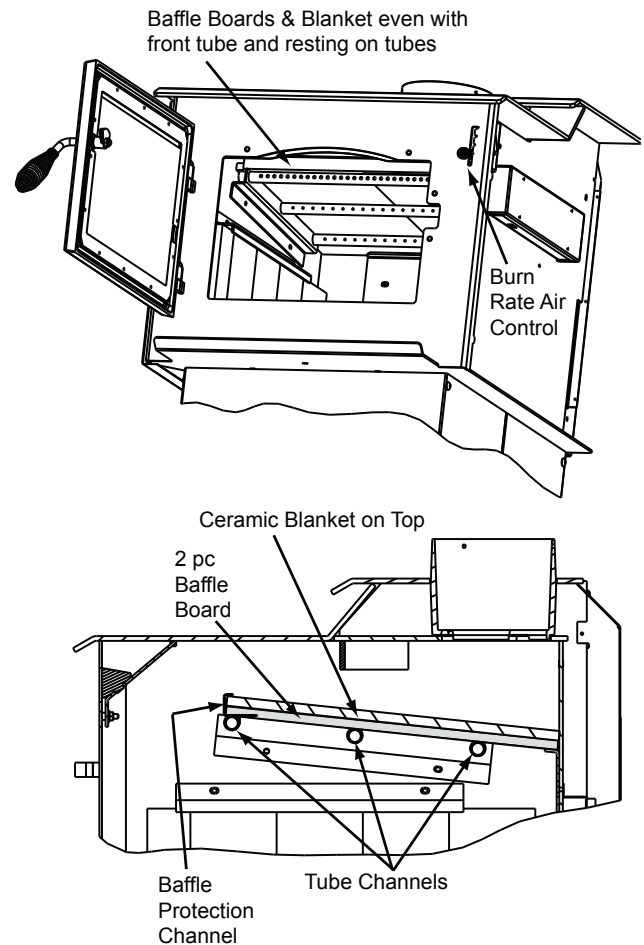

Figure 25.1
2. Remove the baffle protection channel by rotating it down from the front tube (**Figure 25.1**).
7. Slide the baffle pieces one piece at a time underneath the blanket. Be sure the baffle boards are even with the front manifold tube and is resting on all tubes (**Figure 25.1**).